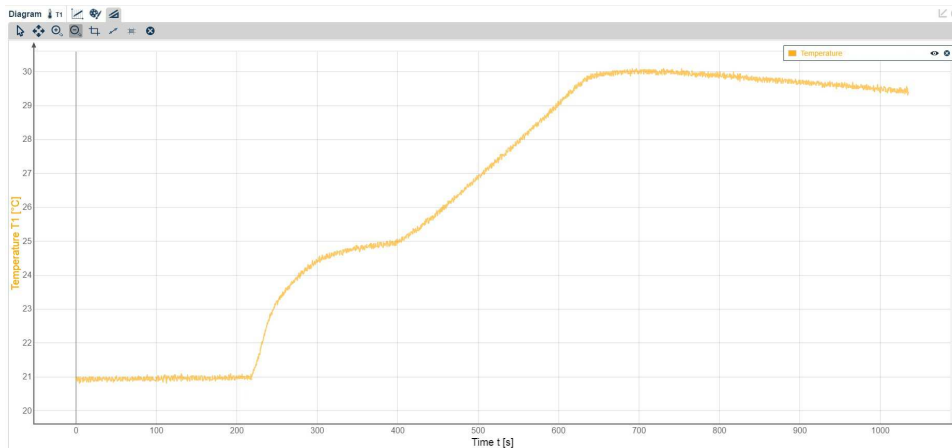

Fig. 5: Temperature-time diagram of the mixing of two miscible fluids and determining the heat capacity of the system.
- Fig. 5 shows the graph as it is now presented by the programme.
- Go to  in the toolbar and use the survey tool  for determining the temperature difference for the mixing process (see Fig. 5)